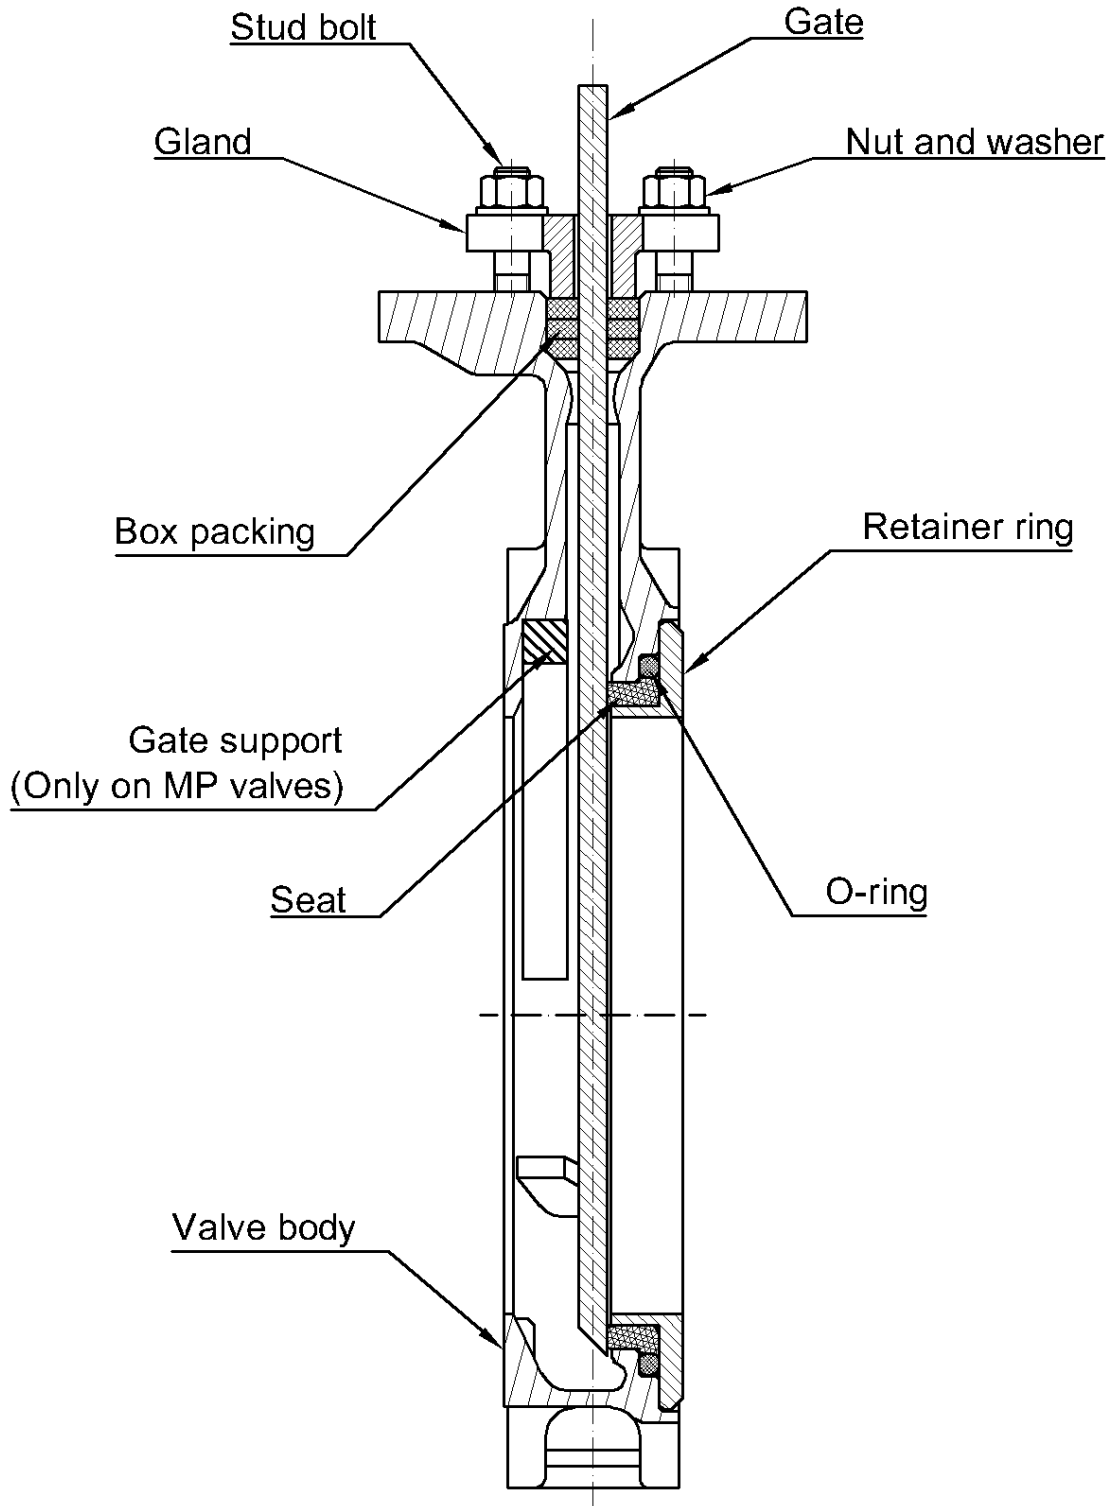

Figure 1 Main components
3. Loosen the nuts (8c) on the gland (8).
4. Lift of the gland (8) from the stud bolts (8a).
5. Remove the box packing braid (9) and if any, box bottom support (9a).
7. Check the gate (6) visually for damages such as dents and scrapes. If the gate is damaged it can wear out the box packing (9) and the seat (13), causing leakage. Stafsjö recommends changing the gate if it is damaged to ensure the function of the valve.
8. If any, check that the guide pads/gate support (14) in the valve body are not worn out and in place.
9. If any, check the box bottom support (9a) for damages. If the box bottom (9a) is damaged Stafsjö recommends changing it. Place the box bottom (9a), in the valve body (10).
10. Check that the gate chamfer is set against the cams in the bottom of the valve body, see figure 1.
11. Begin assembling the first braid (9) on one of the long sides of the gate (6). Use a blunt tool in plastic or wood and a hammer to push the braid into the box. Where the braid ends meet, check that the short ends are opposite each other, not on top of each other. It is important to push the first braid evenly into the bottom of the box. The joint of next braid must be placed on the opposite long side of the joint of the previous braid.
12. Place the gland (8) on the stud bolts (8a).
14. Put force on the gland (8) by tightening the nuts (8c) gradually and crosswise. The box packing must be equally compressed all around. Recommended torque for gland nuts, see chapter D.
15. The gland (8) must put uniform force on the box packing (9) and be in level with the top of the valve body (10).
16. The gland (8) must also be in line with the gate (6) with the same distance between the gland and the gate all around. Check that there is no metal contact between the gland (8) and the gate (6).